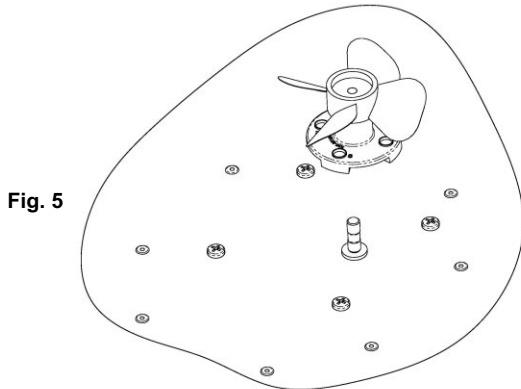

Fig. 5
- 1) Using Q-Tips and Alcohol or Mineral Spirits, wipe the inside of the fan blade hole clean (see fig 5).